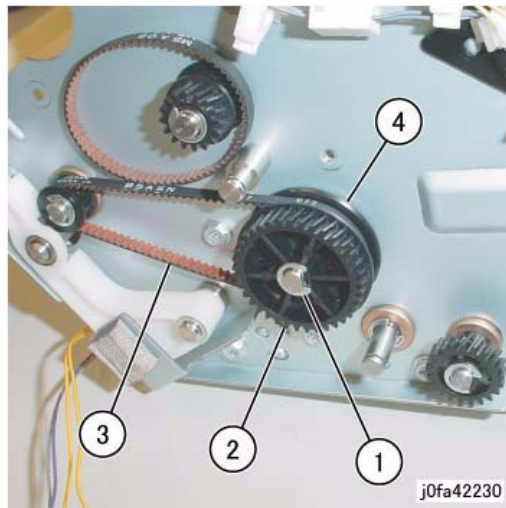

Figure 4 Removing the Gear Pulley
9. Remove the Gear Pulley (Figure 4):